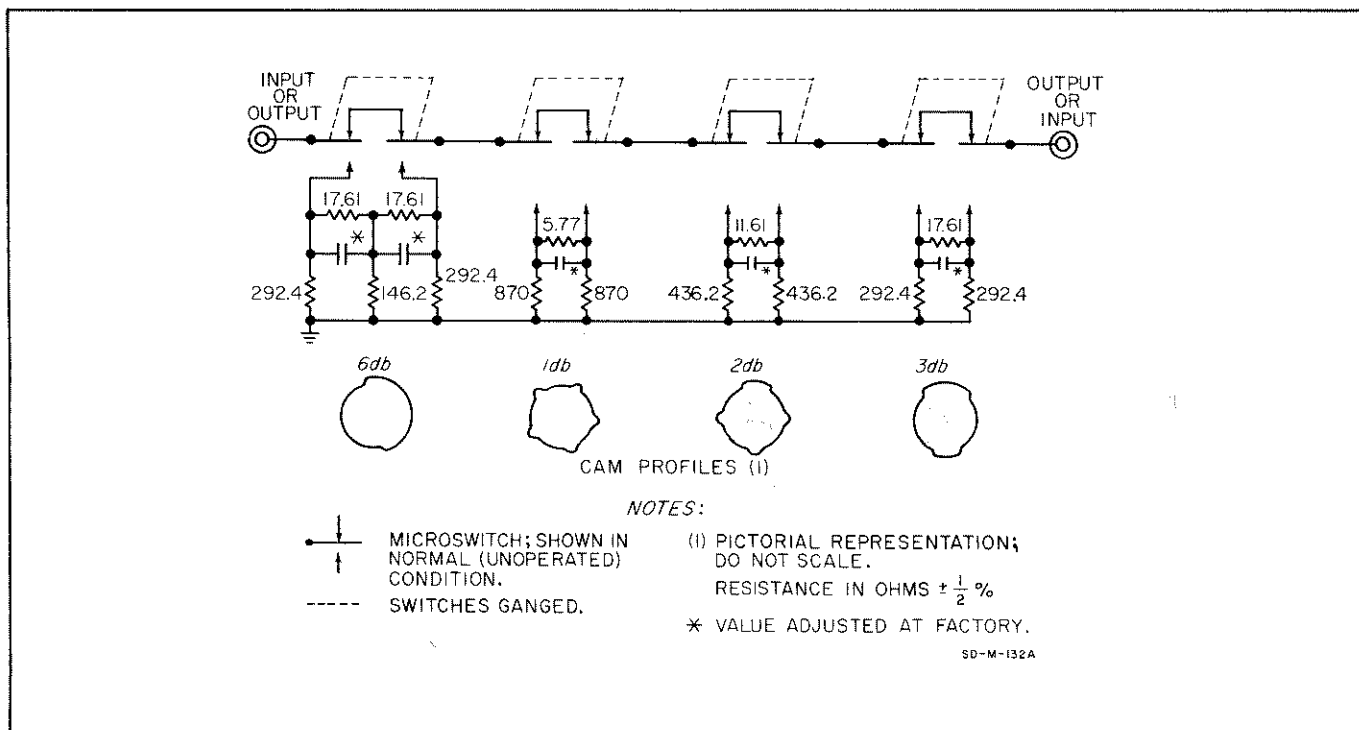
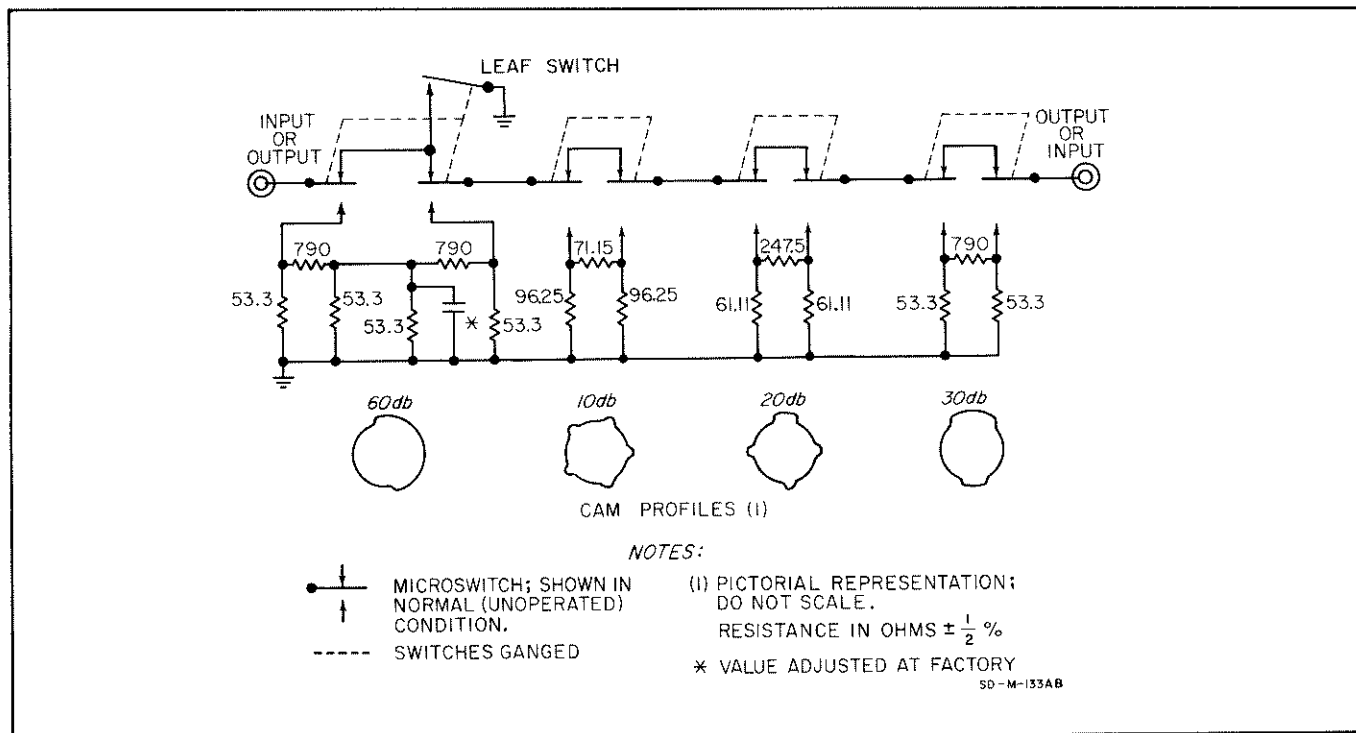

Figure 3. Schematic Diagram and Cam Profiles of Model 355C
Figure 4. Schematic Diagram and Cam Profiles of Model 355D
b. The input may be applied to either connector, and the output taken from the other, except in the case of the 355D driven from a low impedance source. In this one case, the leaf switch (Figure 4) may close before the microswitch opens when the dial is switched from 50 db to 60 db. Should this occur, a momentary short is placed across the connector, inviting damage to either the microswitch or the signal source. If the signal source is capable of delivering more than 10 amperes, use the rear connector for the input. This pads the momentary short with 50 db of isolation.
4. The schematic for the Model 355C is shown in Figure 3, and that of the Model 355D in Figure 4.